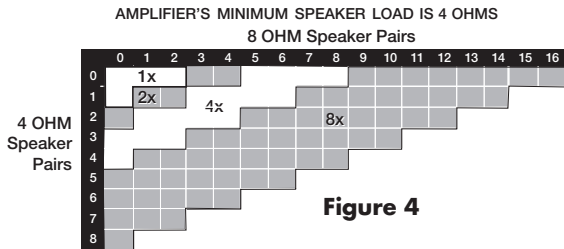
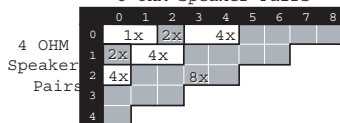
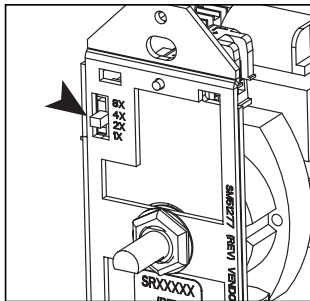

Figure 4
Figure 5
Figure 7
- 3. Read the correct switch position from the charts on page 7. See **Figure 4** if your amplifier can drive a 4-ohm load. See **Figure 5** if your amplifier must have an 8-ohm speaker load.*
- 4. Set the switches on all of the controls to the same position (1x, 2x, 4x, or 8x). See **Figure 7**.*
6. Set the Impedance Magnification Switch (See **Figure 7**) as determined by the IM charts (**Figures 4 and 5**).